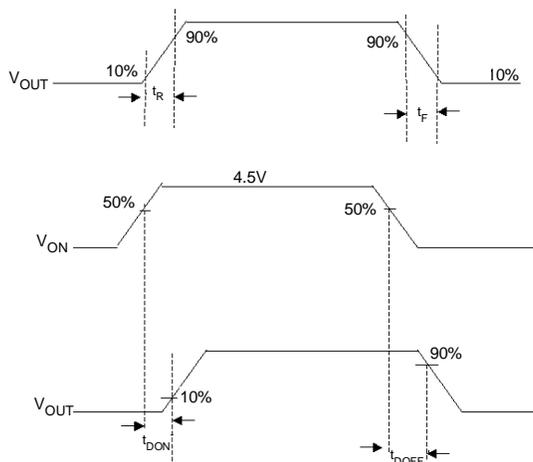

Figure 32. Timing Diagram
- $t_{DON}/t_{DOFF}/t_R/t_F$  are defined in Figure 32.